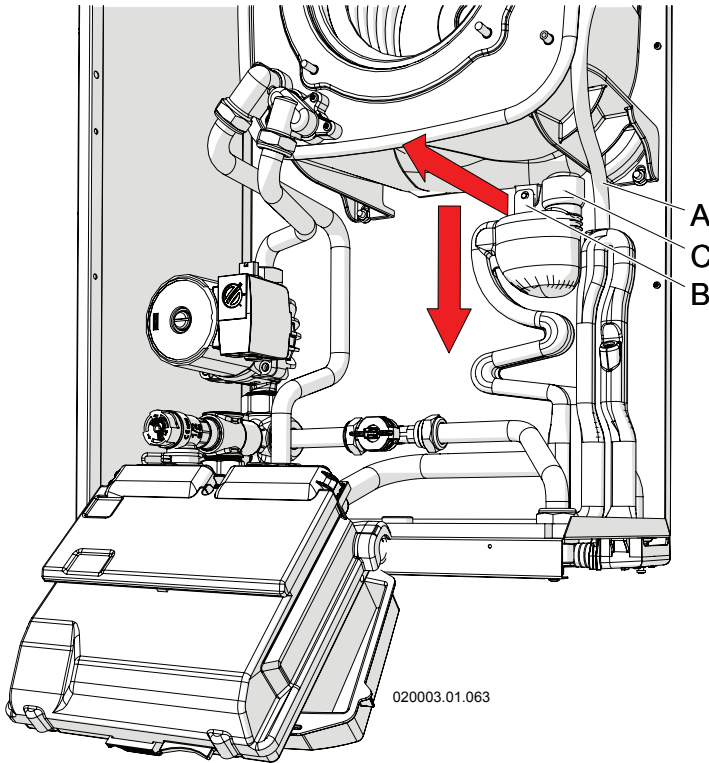

Figure 8-3 - Removal of the condensate collection siphon
- For correct cleaning of the collection siphon and the conveying of the condensate produced by combustion, operate as follows (refer to the figures 8-3, 8-4 and 8-5):